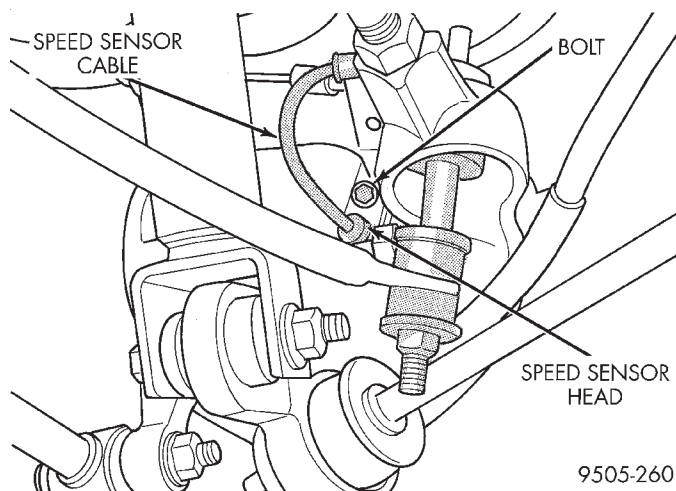

**Fig. 40 Rear Speed Sensor Head Attachment To Brake Support Plate**
(6) Remove the rear speed sensor head from the rear brake support plate (Fig. 40).
(1) Install speed sensor head into brake support plate (Fig. 40).
(2) Install wheel speed sensor attaching bolt (Fig. 40). Tighten the speed sensor head attaching bolt to 8 N·m (75 in. lbs.)